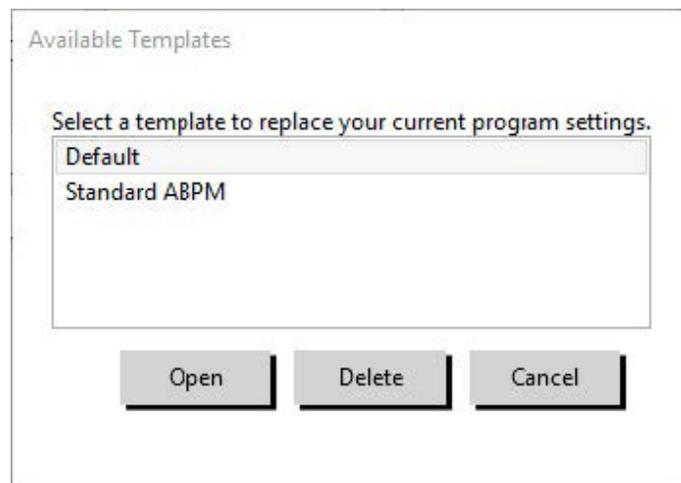

Figure 5: Available Templates Window
2. From the **Available Templates** dialog box (Figure 5), select the template name, and then click **Open**. The form automatically populates with the template's settings.